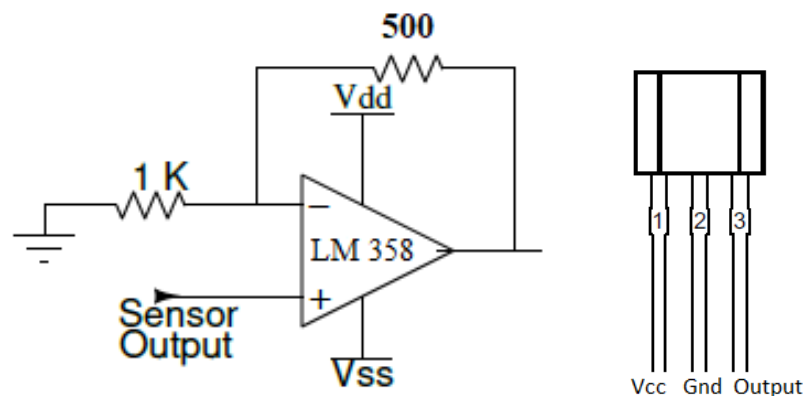

Figure 2: Amplifier circuit for measurement of distance using Hall effect sensor.
4. Connect the amplifier circuit for measurement of distance using Hall effect sensor circuit shown in Fig. 2.